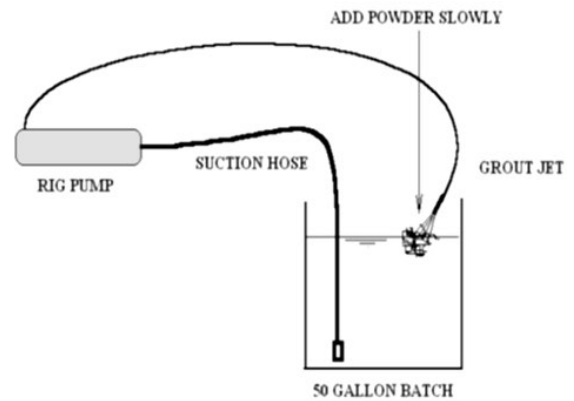

Figure 5.10 Circulation method of pumping grout
- b. For mixing grout use a grout mixer or circulation method (figure 5.10), in case a mixer is not available. In the **circulation method**, a rig pump or a trash pump coupled to a gasoline engine (refer to figure 5.10) is used for mixing the grout components i.e. water, cement and bentonite. Subsequently, the same pump can be used for pumping the grout to the bottom of the borehole. It is to be noted that pressure grouting is not required as the grout flows down under gravity.